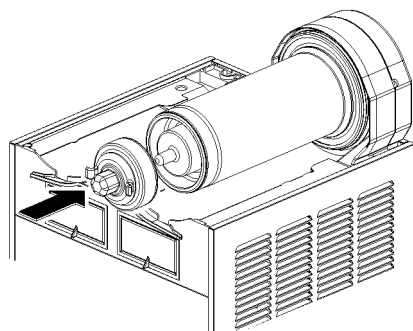

figure 13
- 5 Insert the magnetic outside rotor in the evaporator taking care to accompany it to the end (see figure 13).